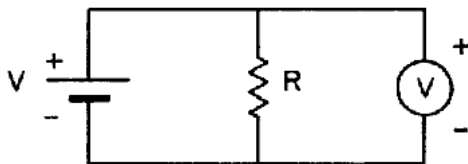

Figure 11-4. Using a multimeter (shown by the circle with a V) to measure voltage, as shown in Figure 11-1(a)
8. Hook up the circuit shown in Figure 11-4 using *one* battery and a $50\ \Omega$ resistance. (You may use a decade resistor box for this purpose.) Measure the dc voltage ΔV .